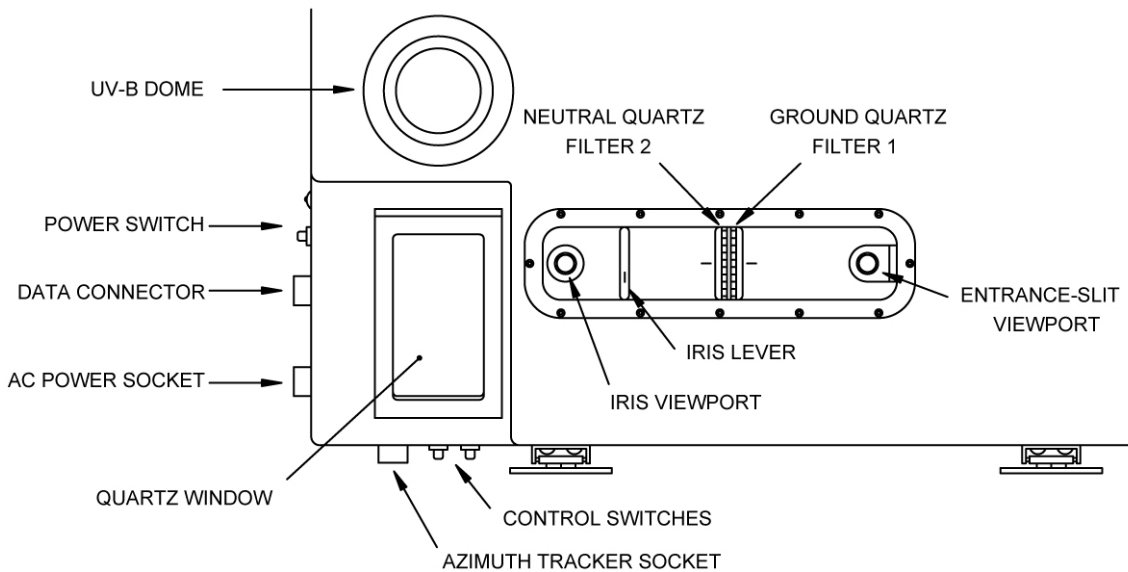
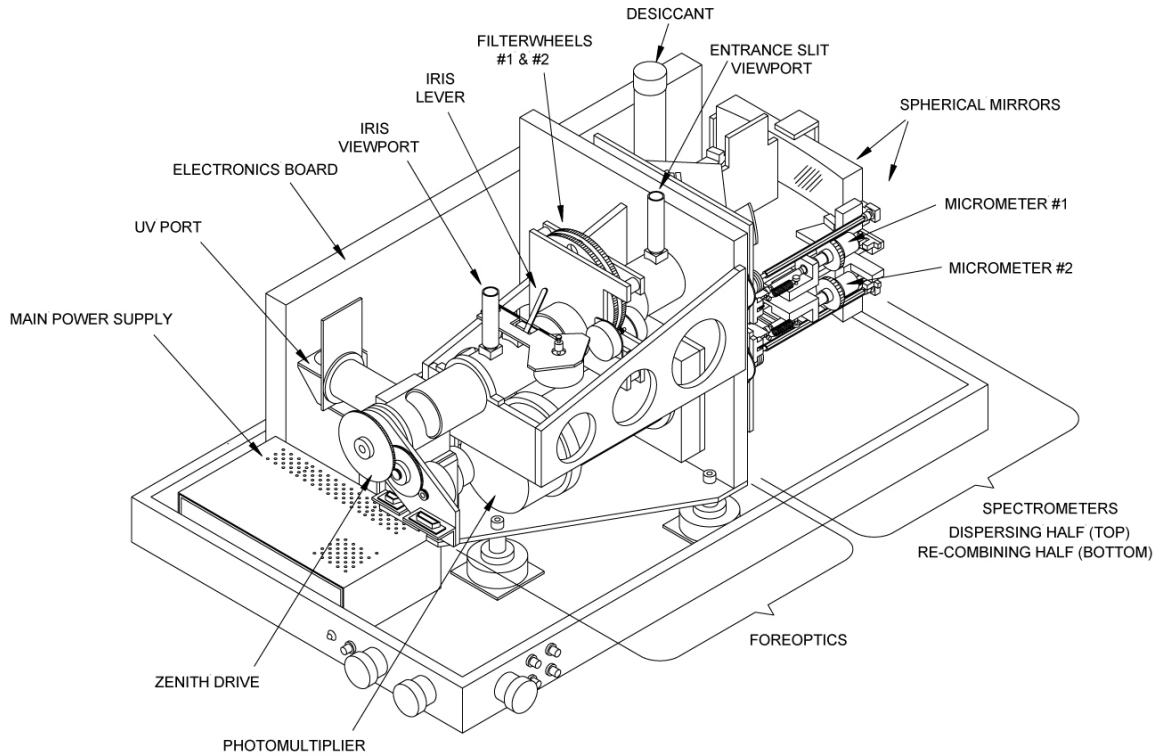

Figure 2.1: Top View of Brewer Cover
Figure 2.2: View of Brewer with Covers Removed
**Refer to Figure 2.1 and Figure 2.2.**